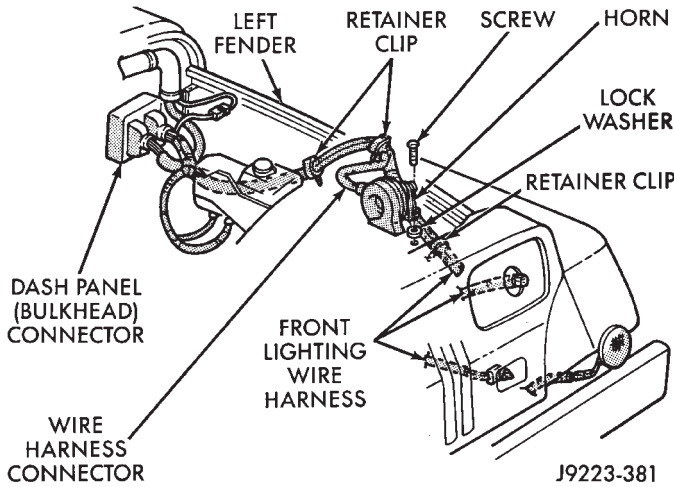
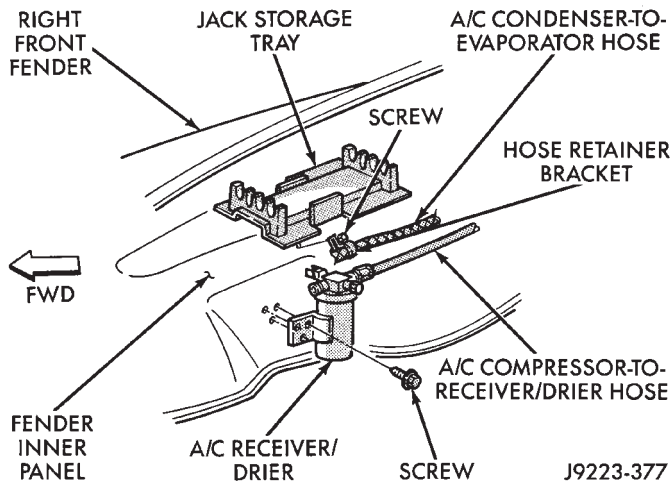

Fig. 24 Horn Removal/Installation
Fig. 28 Jack Storage Tray and A/C Receiver/Drier
- remove the horn from the fender inner panel (Fig. 24); and
- remove the jack storage tray and A/C receiver/drier from the fender inner panel (Fig. 28); and
- install the horn on the fender inner panel (Fig. 24); and
(9) Right fender:
- install the jack storage tray and A/C receiver/drier on the fender inner panel (Fig. 28); and